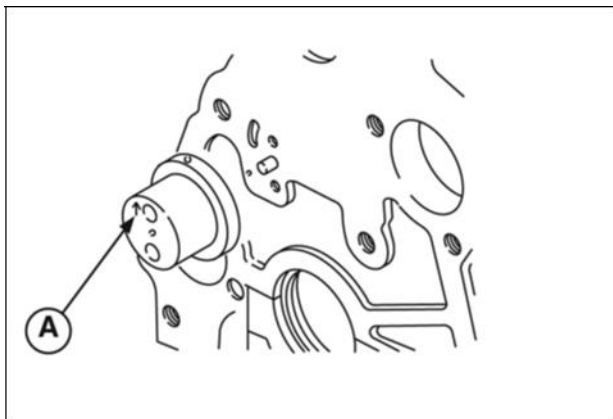

Figure 18
6. Assemble idler gear shaft with arrow up (A, Figure 18).